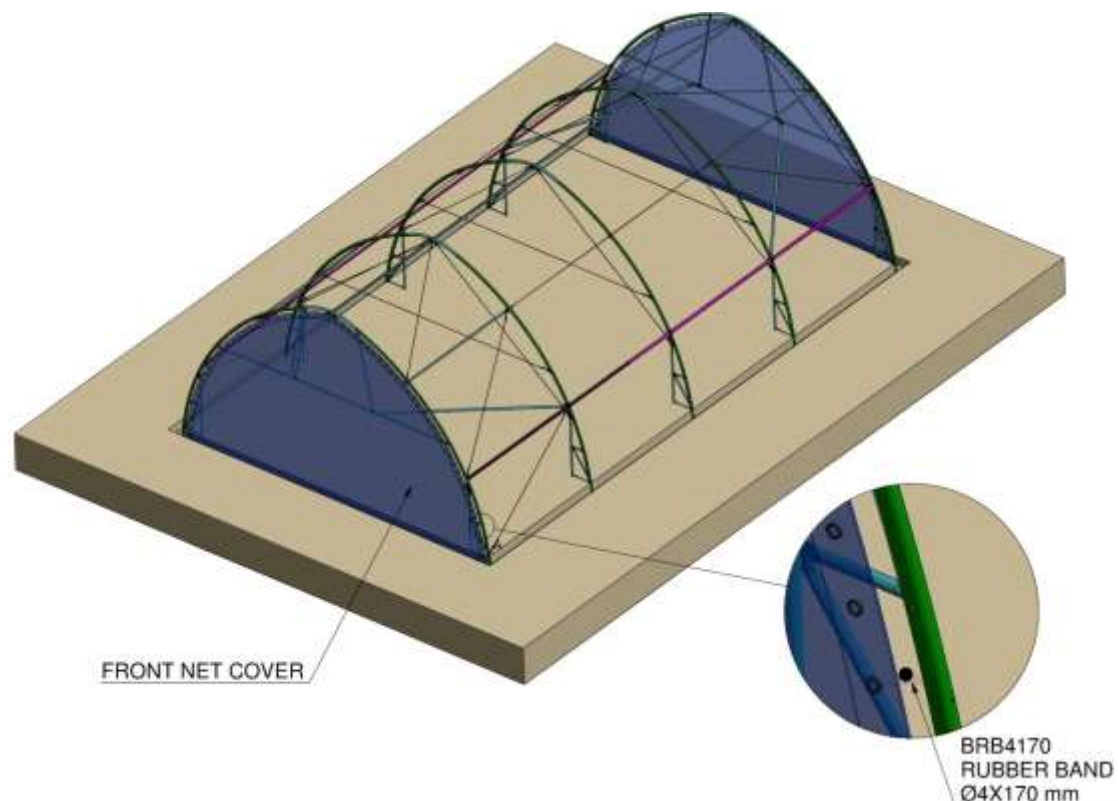

Figure 24: Front and back nets, including rubber bands
2. Attach the eyelets to the front arc using the fabric-coated rubber bands (Figure 24).